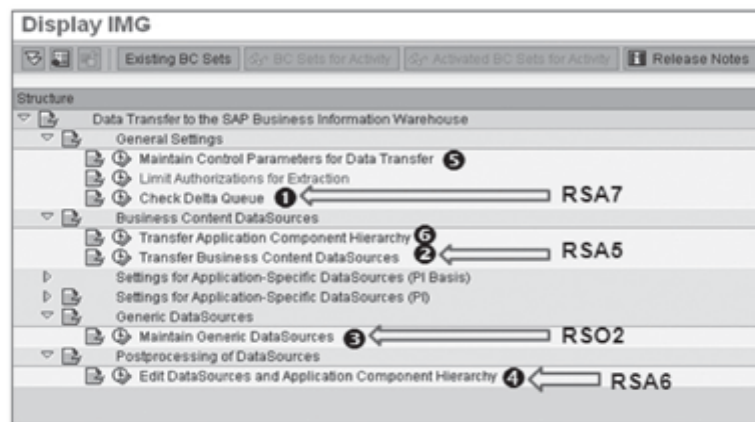

Figure 8.1 Settings in the SAP ERP Source System
Select Transaction SBIW in the source system. The screen that appears is shown in Figure 8.1. This displays various settings and configuration options related to data extraction from SAP ERP to SAP NetWeaver BW. As shown in the figure, some of these settings can be directly called using a transaction code (e.g., Transaction RSA7 for Check Delta Queue), while other settings can only be invoked using the menu path (e.g., Maintain Control Parameters for Data Transfer).
SAP delivers a standard application component hierarchy, which can be activated by clicking on Transfer Application Component Hierarchy (refer to ❸ of Figure 8.1).